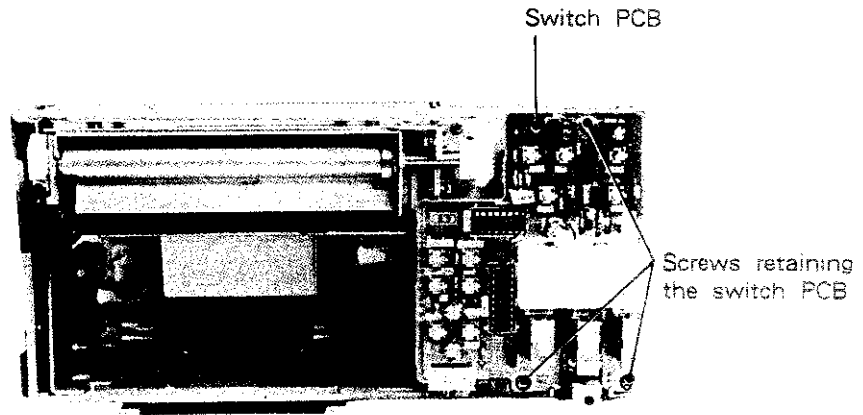
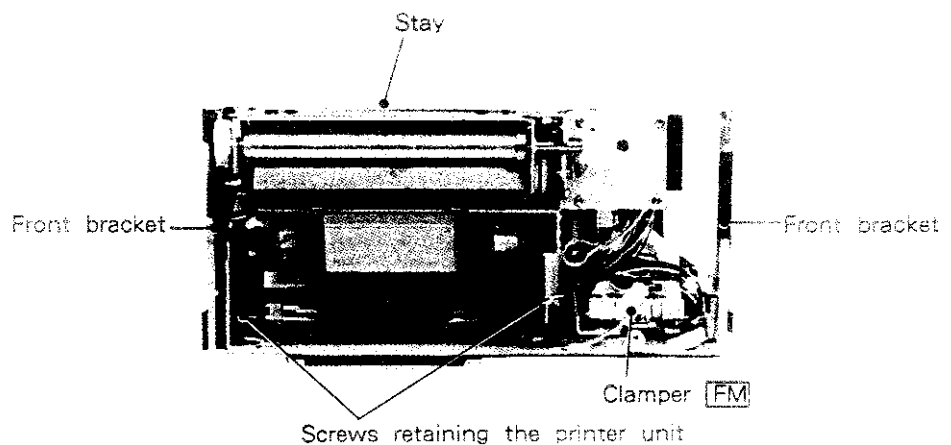
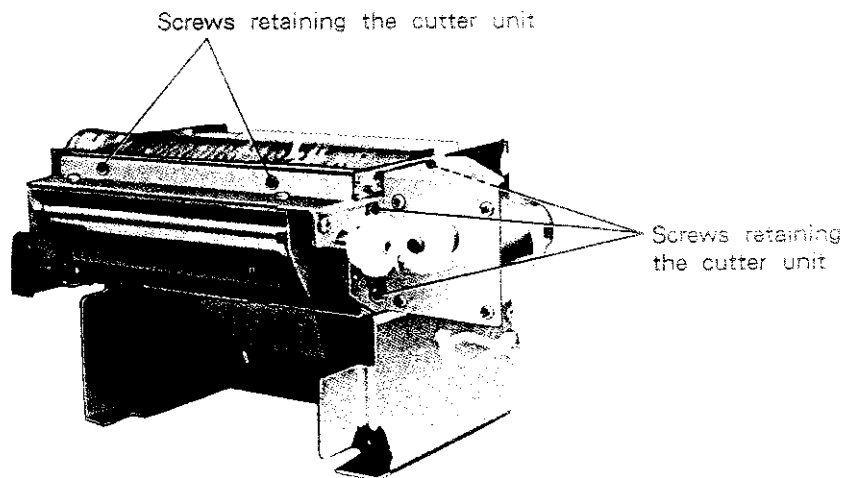

Fig. 2-4
Fig. 2-5
Fig. 2-7
3. Remove screws retaining the switch PCB. (Fig. 2-4)
3. Remove the switch PCB. (Fig. 2-4)
7. Remove the front bracket and stay. (Fig. 2-5)
8. Remove the clamber **FM**. (Fig. 2-5)
9. Remove screws retaining the printer unit (Fig. 2-5)
4. Remove the printer unit. (Fig. 2-5)
6. Remove 5 screws (2 on front, 3 on right side) retaining the cutter unit (Fig. 2-7)
5. Remove the cutter unit. (Fig. 2-7)
Removal of the Head bracket	<ol style="list-style-type: none"> 1. Remove the cabinet. (Fig. 2-1) 2. Remove the front unit. (Fig. 2-2) 3. Remove the switch PCB. (Fig. 2-4) 4. Remove the printer unit. (Fig. 2-5) 5. Remove the cutter unit. (Fig. 2-7) 6. Remove screws retaining the cover. (Fig. 2-9) (Note) Be careful as the H spring is holding up the cover. 7. Remove the heat-sink. (Fig. 2-9) 8. Disconnect the connectors connected to the thermal head. 9. Remove the E-ring attaching the H shaft. (Fig. 2-13) 10. Slide the H shaft rightward and remove it. (Fig. 2-13) 11. For re-assembly, reverse the procedure. <div style="text-align: center; margin-top: 20px;">  </div> <p style="text-align: center;">Fig. 2-13</p>
Replacement of Platen roller	<ol style="list-style-type: none"> 1. Remove the cabinet. (Fig. 2-1) 2. Remove the front unit. (Fig. 2-2) 3. Remove the switch PCB. (Fig. 2-4) 4. Remove the printer unit. (Fig. 2-5) 5. Remove the cutter unit. (Fig. 2-7) 6. Remove screws retaining the cover. (Fig. 2-9) (Note) Be careful as the H spring is holding up the cover. 7. Remove the heat-sink. (Fig. 2-9) 8. Disconnect the connectors connected to the thermal head.